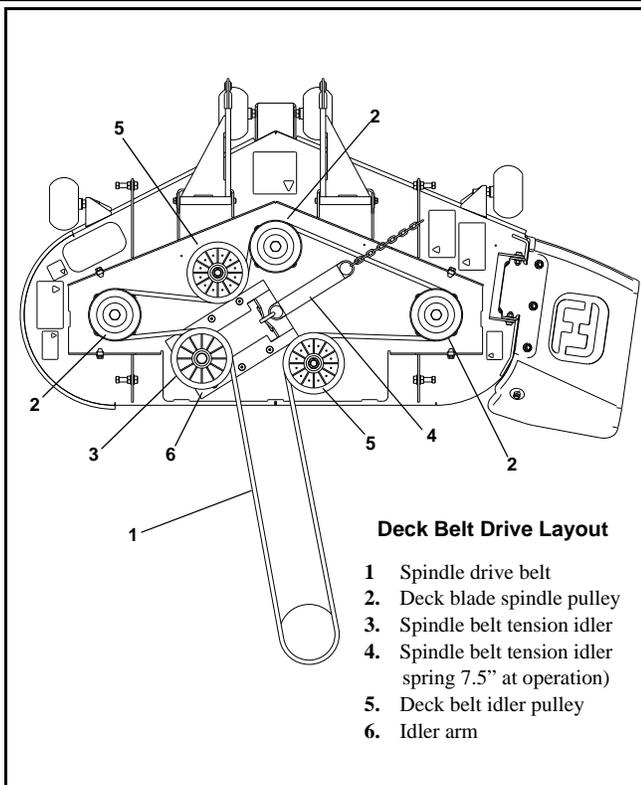
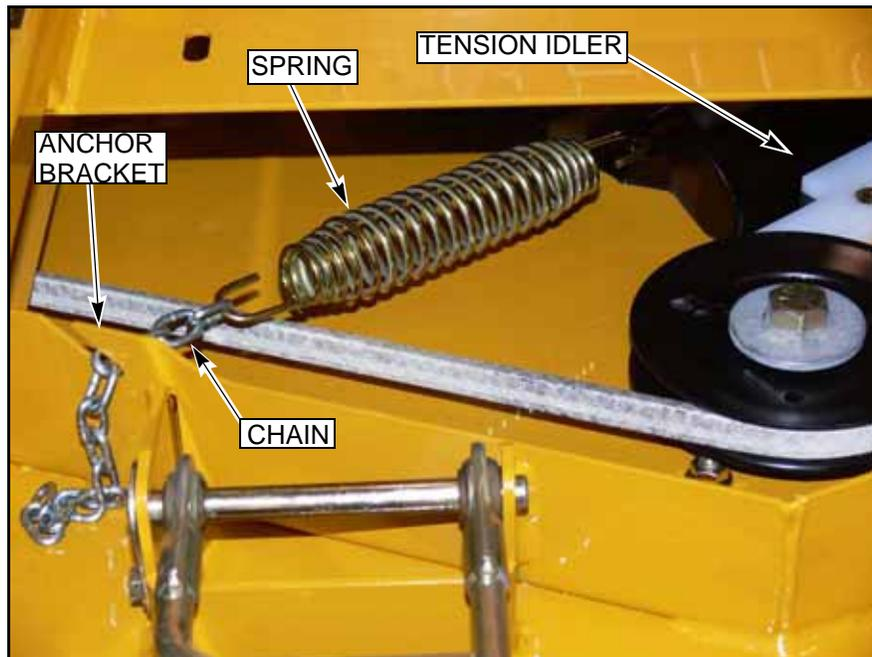
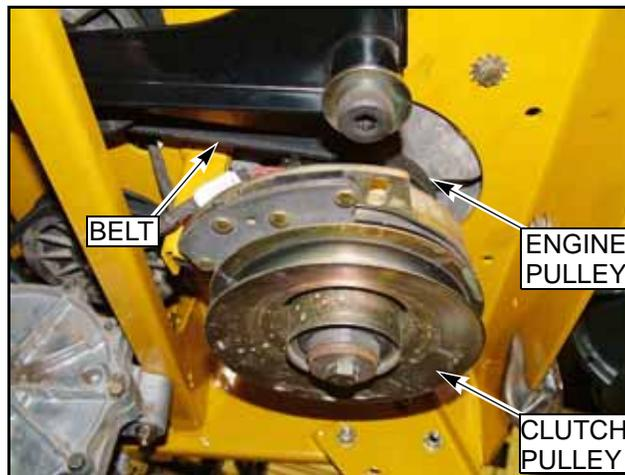

FIG. 51
FIG. 53
FIG. 54
FIG. 51 and FIG. 53 show diagrams and descriptions of the unit's belt drive systems.
4. Release the deck belt tension by pulling on the belt tension chain and sliding the chain out of the anchor bracket slot. This will relieve the tension on the deck belt idler spring. FIG. 53
7. Route the new belt per FIG. 51.
3. The deck belt must be removed from the clutch pulley first by releasing the deck belt tension by pulling on the belt tension chain and sliding the chain out of the anchor bracket slot. This will relieve the tension on the deck belt idler spring (FIG. 53 & FIG. 54).
6. Slide the belt off the engine pulley. The belt will have to be slid above the engine pulley to allow the belt to be removed from the other pulleys (FIG. 54).